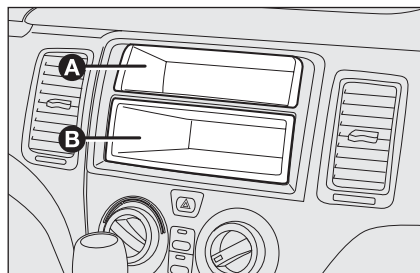

fig. 2
- ☐ with fixed oddment compartment **A-fig. 2** and extractable component (DIN) **B-fig. 2** for installing the sound system;